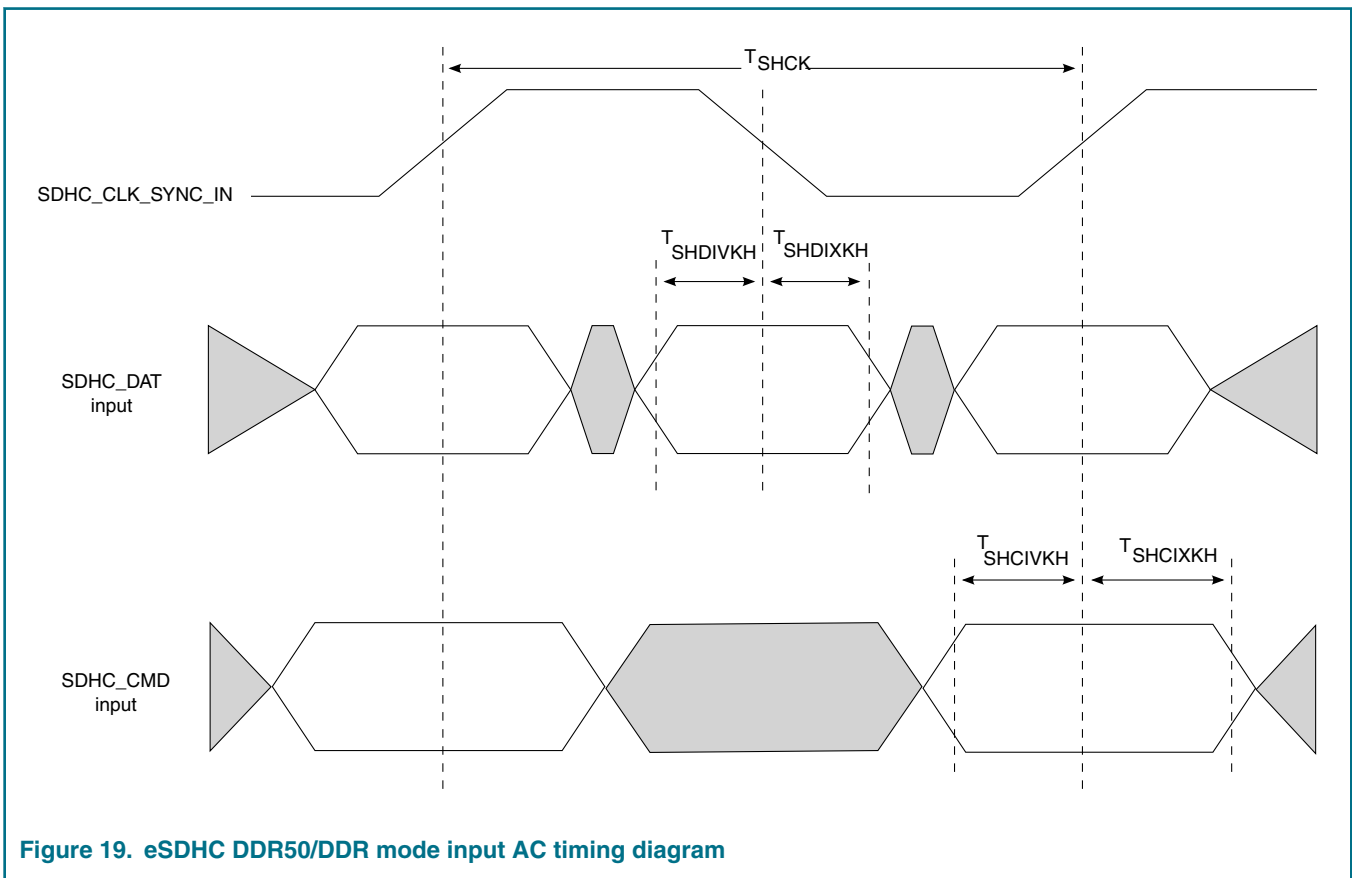
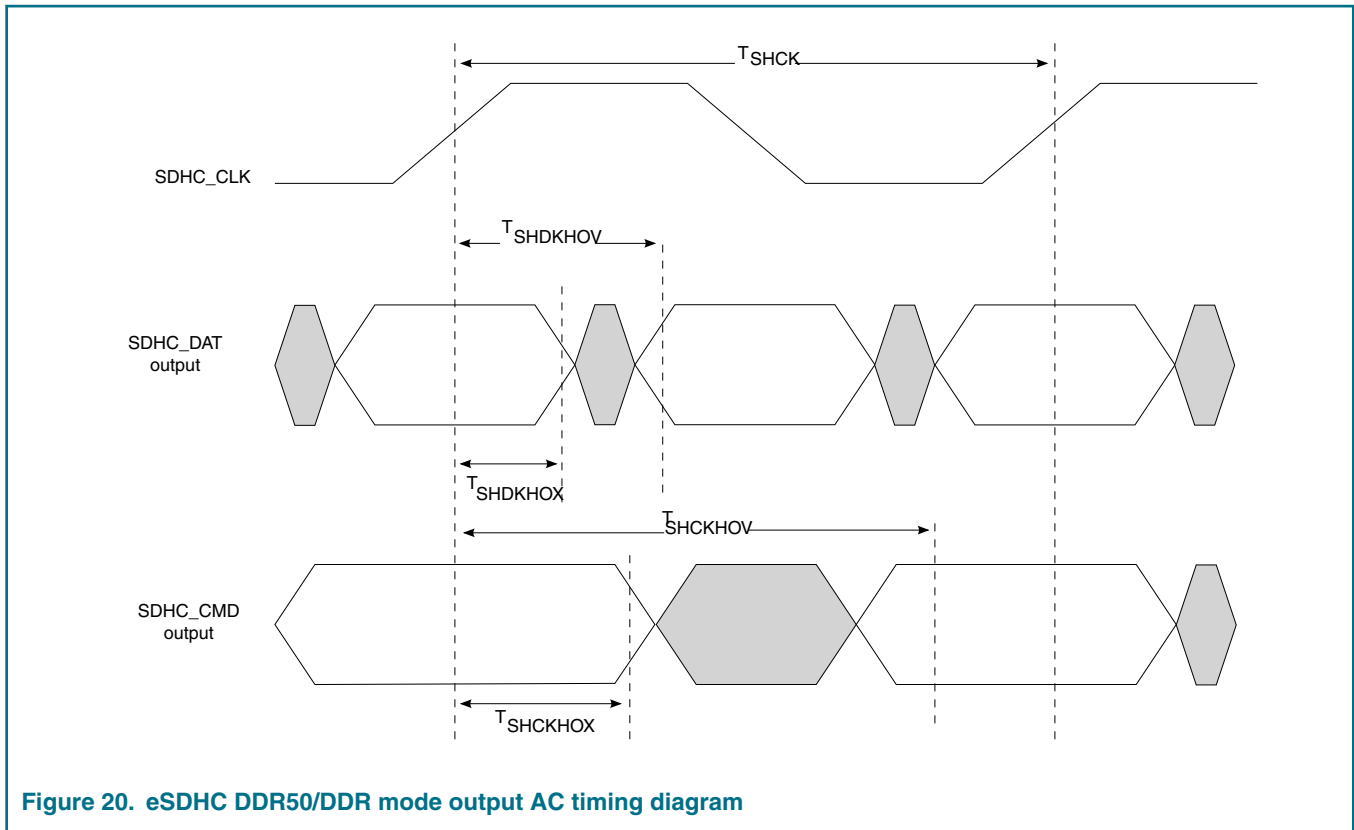

Figure 19. eSDHC DDR50/DDR mode input AC timing diagram
Figure 20. eSDHC DDR50/DDR mode output AC timing diagram
1. $C_{CARD} \leq 10\text{pF}$, (1 card). 2. $C_L = C_{BUS} + C_{HOST} + C_{CARD} \leq 20\text{ pF}$ for MMC, $\leq 25\text{pF}$ for Input Data of DDR50, $\leq 30\text{pF}$ for Input CMD of DDR50. 3. The symbols used for timing specifications herein follow the pattern of $t_{(\text{first two letters of functional block})(\text{signal})(\text{state}) (\text{reference})(\text{state})}$ for inputs and $t_{(\text{first two letters of functional block})(\text{reference})(\text{state})(\text{signal})(\text{state})}$ for outputs. For example, $t_{SHKH\text{OX}}$ symbolizes eSDHC highspeed mode device timing (SH) clock reference (K) going to the high (H) state, with respect to the output (O) reaching the invalid state (X) or output hold time. Note that in general, the clock reference symbol is based on five letters representing the clock of a particular functional. For rise and fall times, the latter convention is used with the appropriate letter: R (R for rise) or F (F for fall). 4. See Figure 19 . on page 91. 5. See Figure 20 . on page 92. 6. The AC timing specifications are based on the recommended operating conditions with EVDD /OVDD =1.8V and EVDD=3.3V, see Recommended Operating Conditions